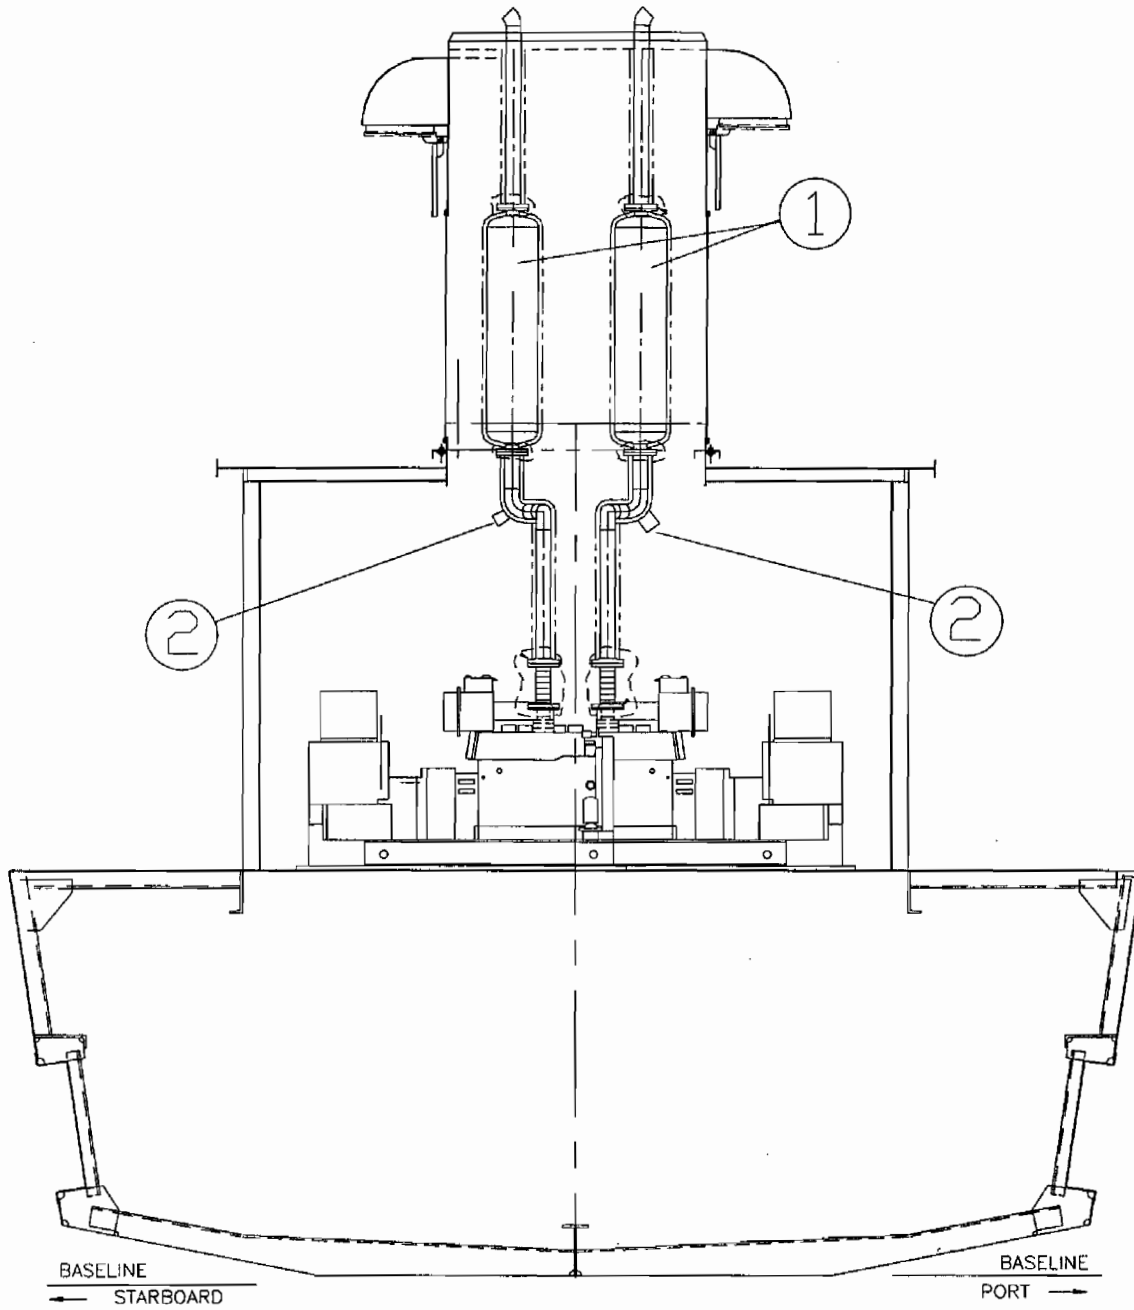

Figure 1-36. Generator Engine Exhaust System
- 7 Engine Exhaust System. Figure 1-36 provides a plan view of the generator engine exhaust system. Exhaust gases from the diesel generator engines are piped upwards to silencers (1) located in the exhaust stack on the rear of the 01 Deck and finally released into the atmosphere. The engine exhaust silencers also have condensate drain lines (2) located in the stack.